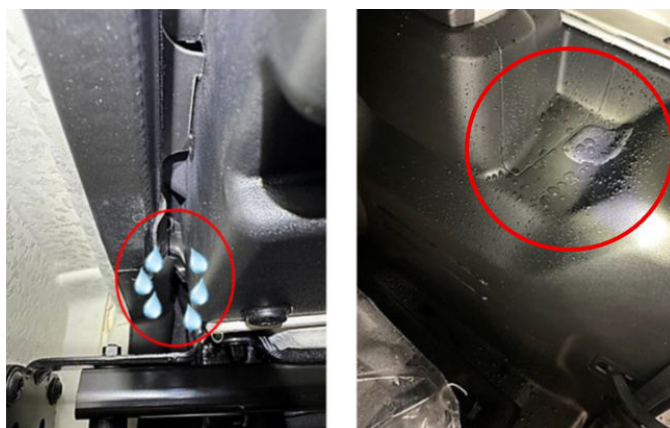

Fig. 3
3. Canopy off location Fig. 3. - The water drains through the rear AP water management channel. To fix Canopy off location issues: Open the canopy to approximately 15%; to relieve tension in the canopy, loosen the four screws on the rear cassette and pull it backward, closing the gap between the canopy and the Rear AP SMC.